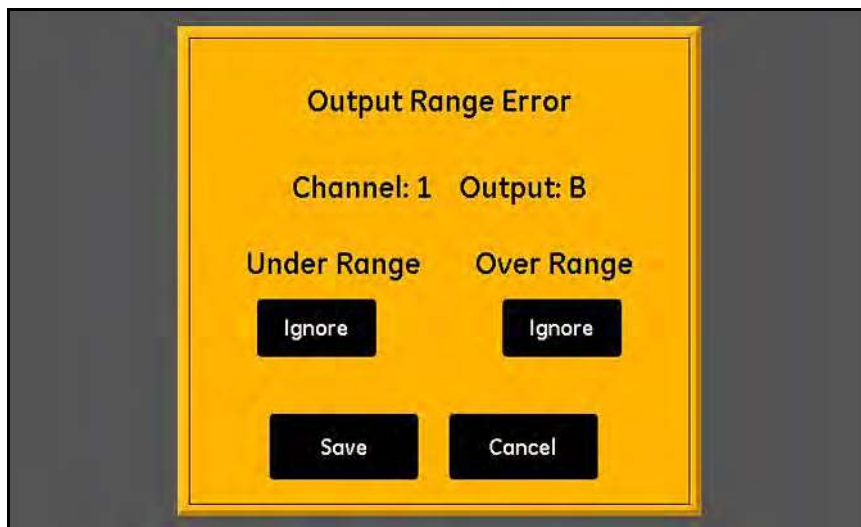

Figure 41: Range Error Setup Screen - Output Response
1. Tap the desired **Channel (1-6)** and **Output (A or B)**, and then tap the **Range Error** button to open a screen similar to *Figure 41* below.